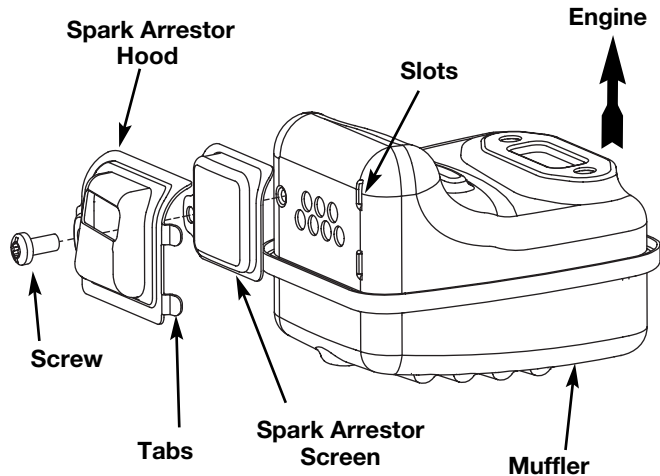

Fig. 16
2. Locate the muffler, but do not remove it. Find the screw on the bottom of the muffler (Fig. 16). Remove the screw using either a torx #20 or flat blade screwdriver.